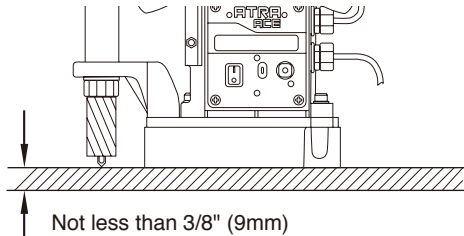

Fig. 3
- The work piece must be at least 3/8" (9 mm) thick. If a work piece is too thin, the magnetic power of your machine will decrease. This will cause the machine to move during operation. This could result in an accident. (Fig.3)